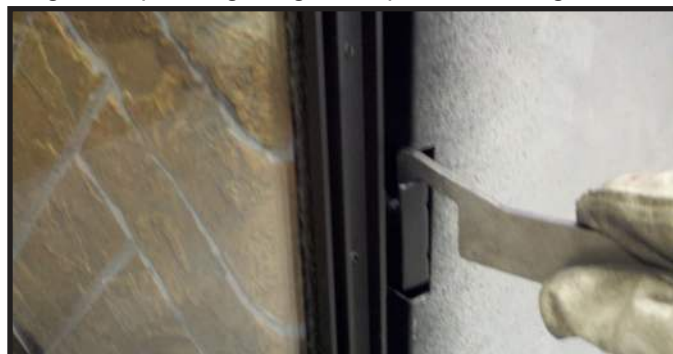

Figure 11.7. Securing Side Glass Clips
3. Disengage the left and right glass clips one at a time using the glass clip removal/installation tool. Insert tool from the top side of the side glass clip. Pull the glass tool out slightly to disengage the side clip. See Figure 11.7.
5. Ensure the fixed glass assembly is situated tight against the firebox face. Engage the left and right glass clips using the glass clip tool. See Figure 11.7.